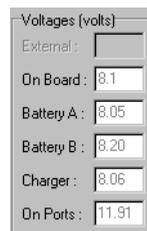

Figure 2-6. View Voltages Information
8. View the **Voltages** information (Figure 2-6).